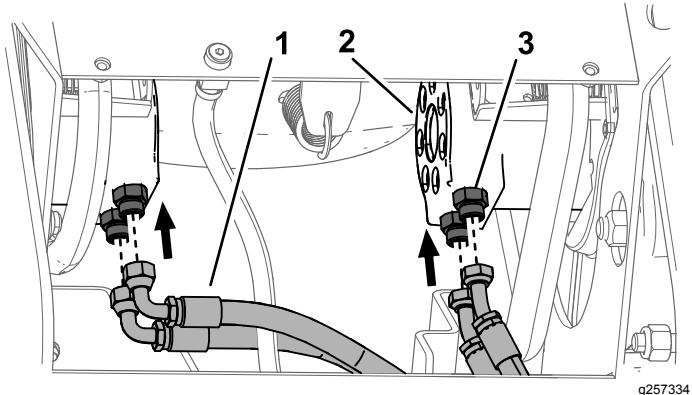

Figure 12
7. Install the hydraulic fittings into the new track motors (Figure 12). Torque them to 136 to 163 N·m (100 to 120 ft-lb).
1. Hose (4)
2. Fitting installed into the port (4)
3. Track motor (2)
8. Install the hoses to the ports that you marked (Figure 12).